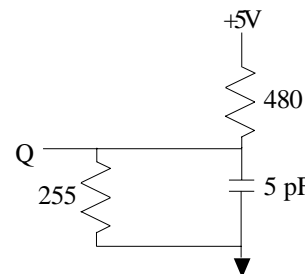

Fig. 2 Output Load Equivalent
- tHZCE and tHZWE are specified with CL = 5pF as in Fig. 2. Transition is measured ±500mV typical from steady state voltage, allowing for actual tester RC time constant.